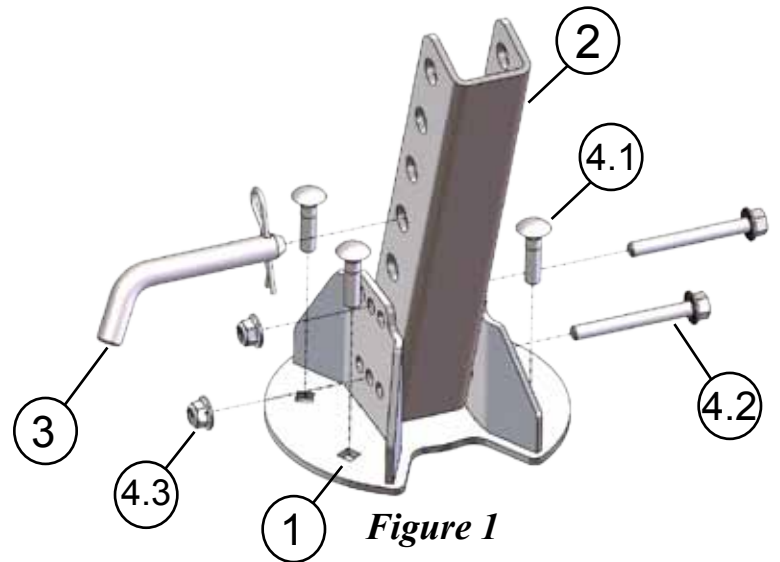

Figure 1
2. Mount Plow Lever Lift Bracket in location (A) using the four longer 3/8" carriage bolts (4.1) supplied in the hardware kit as shown in *Figure 1 & 2*.
4. Mount plow lever lift channel in location using the two 3/8" bolts (4.2) supplied in the hardware kit as shown in *Figure 1*.